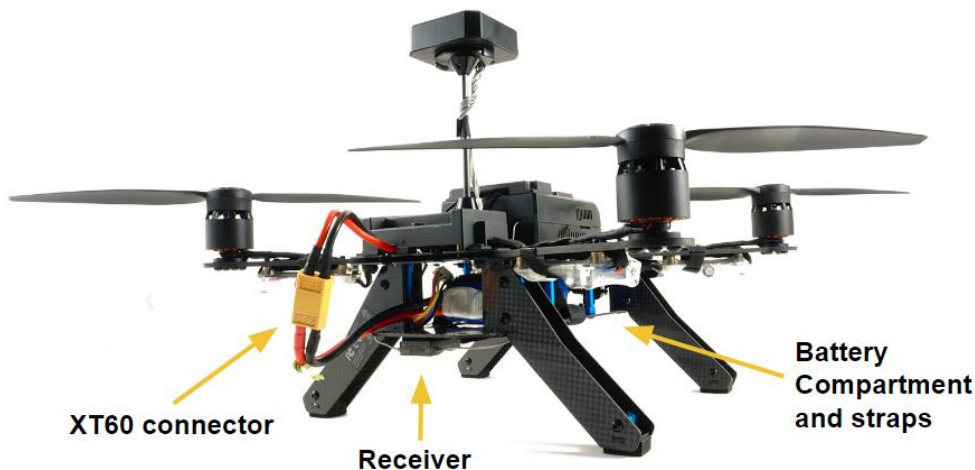

Figure 1. Intel Aero Ready to Fly Drone
- i. Insert a battery inside the center cavity of the drone's airframe with cables extending out toward the rear of the drone as shown in Figure 1.